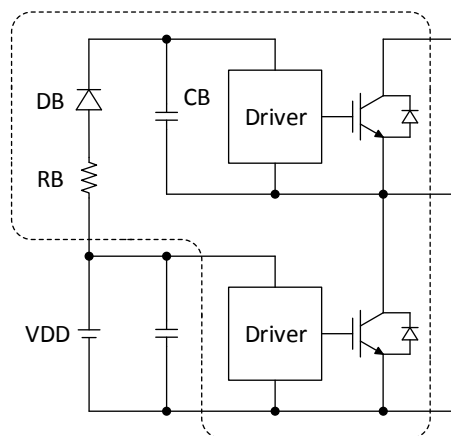

Figure 19. Boot Strap Circuit
The VBx pins are internally connected to the positive supply of the high-side drivers. The supply needs to be floating and electrically isolated. The boot-strap circuit shown in Figure 19 forms this power supply individually for every phase. Due to integrated boot resistor and diode (RB & DB) only an external boot capacitor (CB) is required.